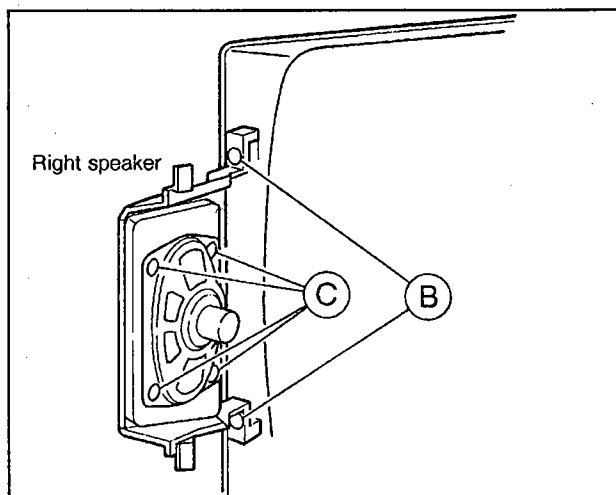

Fig. 3
- 1. Take out 2 screws ② indicated in Fig. 3.
- 2. Take out 4 screws ③.
- ※ Fig. 3 indicates only the right speaker. Remove the left speaker in the same manner.